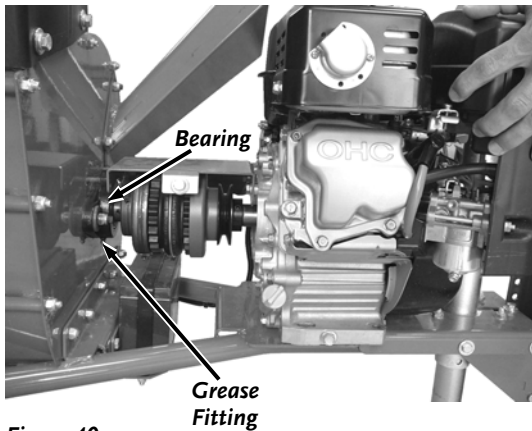

Figure 40
2. Lubricate the Bearing (**Figure 40**) with Multipurpose Automotive Grease using a grease gun on the fitting.